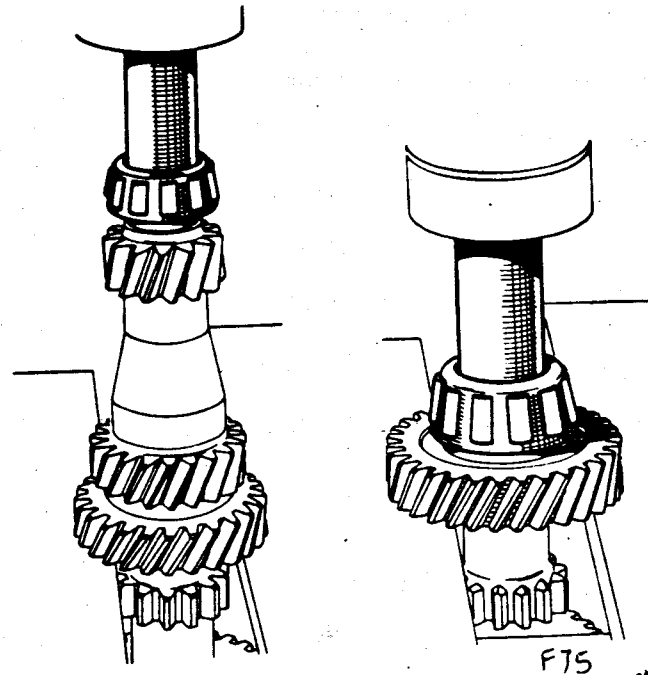

Fig. 40.
- b. The primary shaft. (as shown in Fig. 40 )